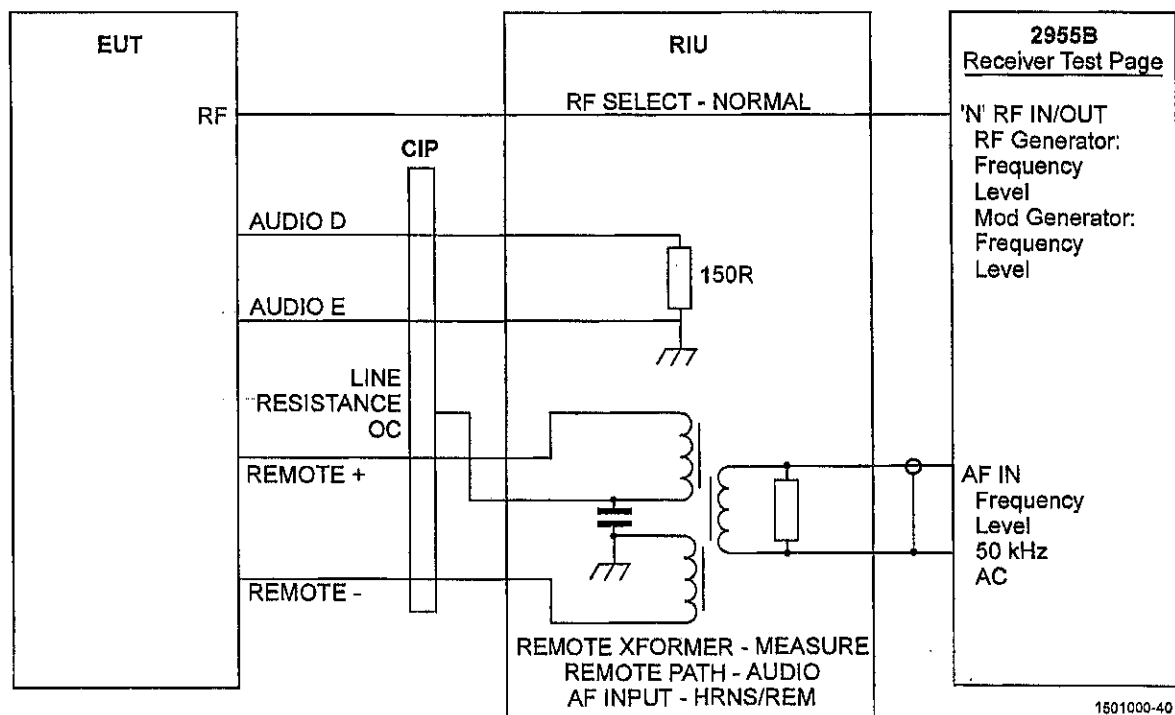

Fig 9 Receiver - Remote Output (351) Skeleton Test Set-Up
11 The equipment configuration and functions set by the Receiver – Remote Output (351) Skeleton Test Set-Up are illustrated in Fig 9.